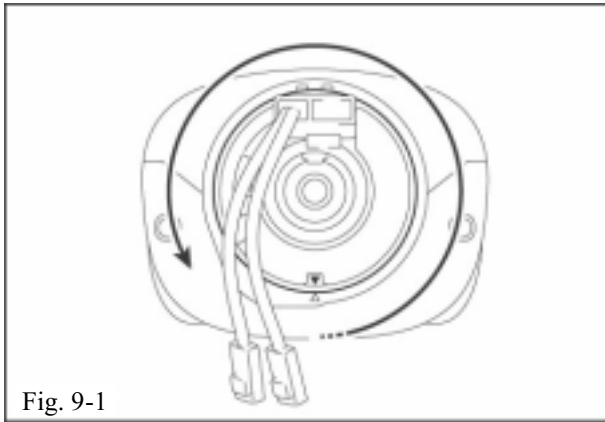

Fig. 9-1
- (b) Carefully turn the spiral cable counterclockwise all the way until it will no longer turn. (Fig. 9-1)